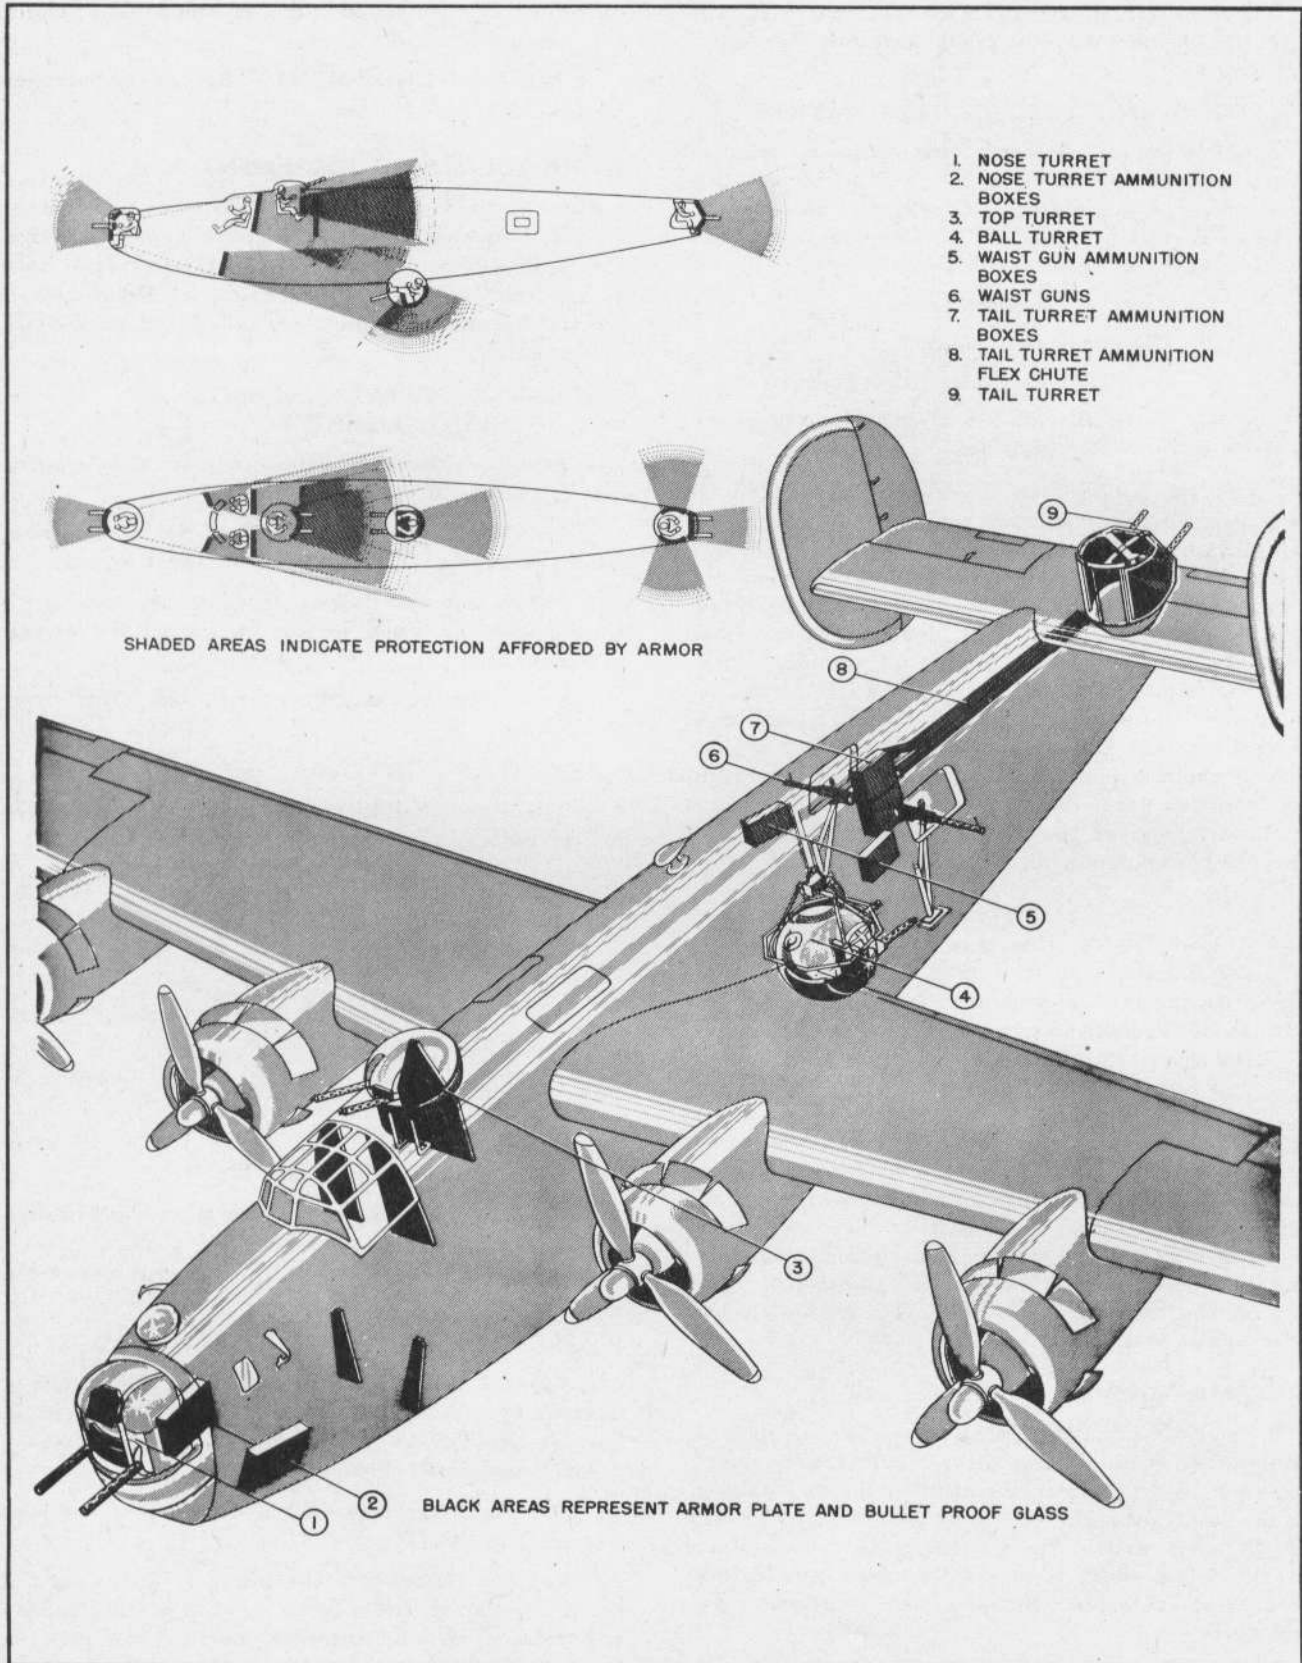

Figure 69—Angles of Armor Protection, Group I Airplanes
a. GUNNERY EQUIPMENT. — The airplane is equipped with four power-driven turrets each mounting two .50-calibre machine guns. A turret is located in the nose, in the tail, on top of the fuselage forward of the wing, and at the bottom of the fuselage aft of the wing. One .50-calibre machine gun is also located at each side window in the waist. (See figure 69.)
b. ARMOR PLATE PROTECTION. (See figures 69, 69A and 70.)—In later Group III airplanes, flak